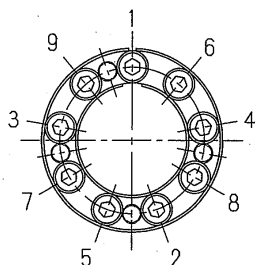

Fig. 4 : Tightening sequence
4. After inserting the POWER-LOCK to its specified depth, position the hub and shaft relative to each other (circumference and thrust direction). Set the torque wrench to approximately 1/4 of torque MA (refer to the table below for torque MA), and tighten each of the locking bolts evenly in the sequence shown in figure 4. When tightening the bolts, do not tighten each bolt completely at one time, but tighten each bolt to an approximate 30 degree turn and then move to the next bolt in sequence. Then repeat this process in the sequence given in figure 4 until all the locking bolts have been tightened to this torque.